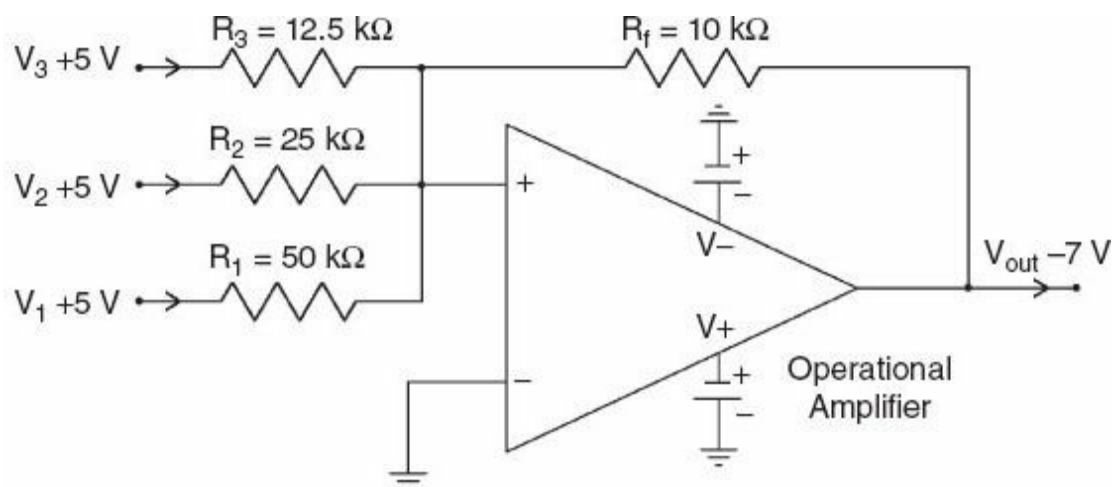

FIGURE 8.21 Simple digital-to-analog converter (DAC).
Further transmission occurs through the twisted-pair cables and air or optical fibers. Once the signals are received by the computer, digital-to-analog converter (DAC) converts the digital data to analog for the analog world to understand. DACs can be constructed from operational-amplifiers (op-amp) or from integrated circuits (ICs). Figure 8.21 shows an inverting-amplifier that is a summing amplifier op-amp configuration representing a 3-bit DAC. V₁, V₂, V₃, inputs are 5 volts (V) each representing “111” 3-bit digital code. The summing amplifier processes the input signal, and the